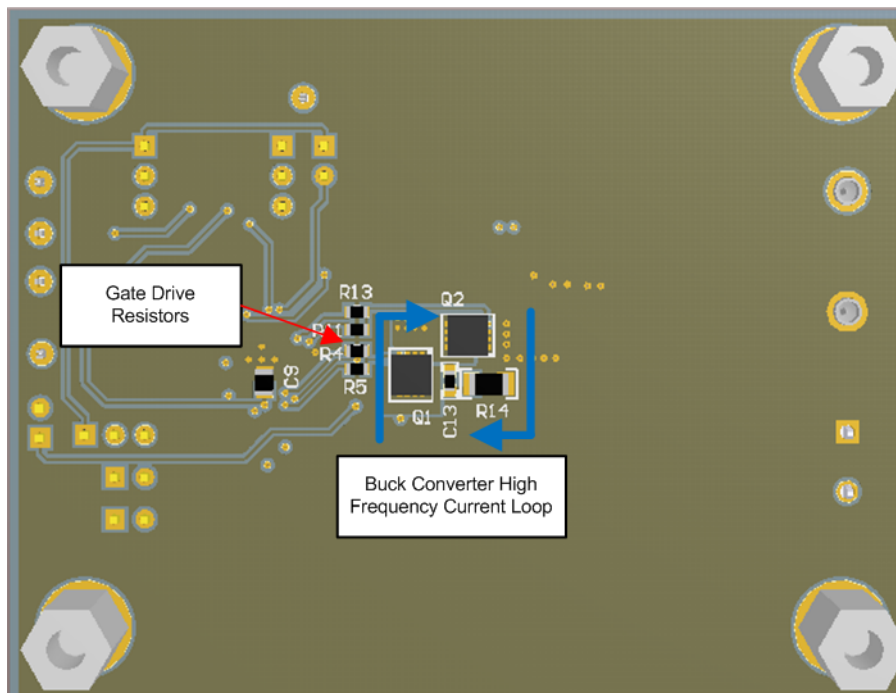
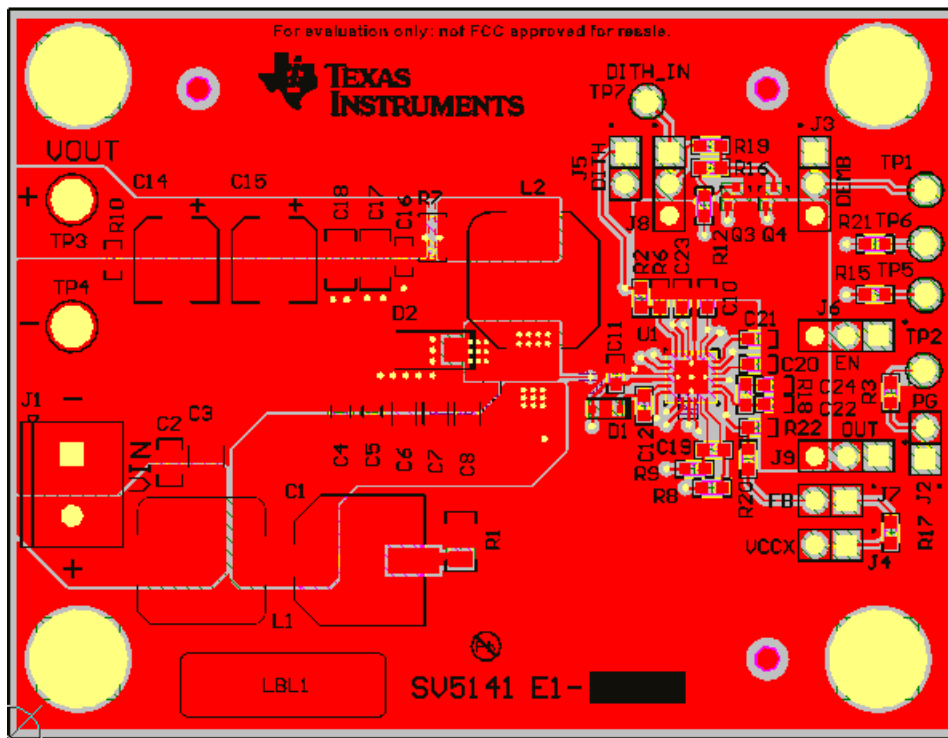
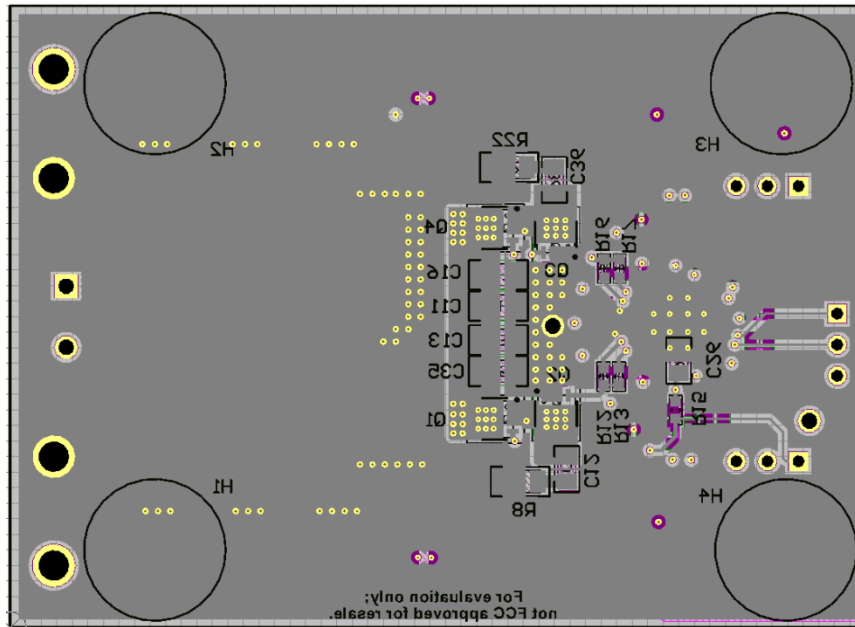

Figure 39. EVM Bottom Layer, High Frequency Current Loop
Figure 41. EVM Top Layer
Figure 42. EVM Bottom Layer
- Figure 39 shows the high frequency loops of the synchronous buck converter. The high frequency current flows through Q1 and Q2, through the power ground plane and back to  $V_{IN}$  through the ceramic capacitors C6, C7, and C8. This loop must be as small as possible to minimize EMI. Refer to Figure 41 and Figure 42 for the recommended PCB layout.
Figure 41 and Figure 42 show the Top and Bottom layer of the LM5141 EVM.